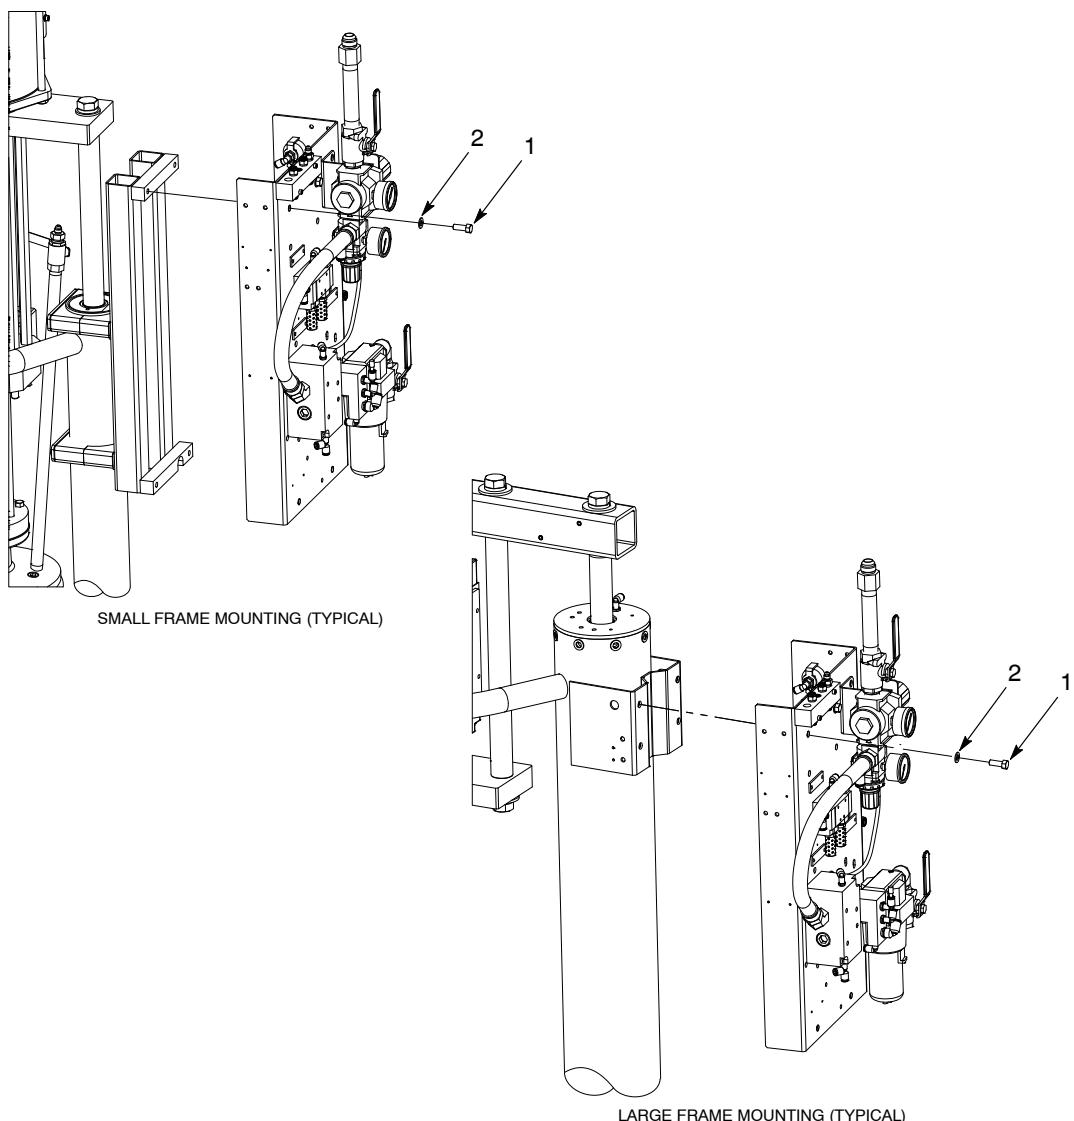

Figure 3    Installing the Control Module
See Figure 3. Mount the control module onto the bulk unloader using the supplied screws (1) and washers (2). Tighten the screws securely.